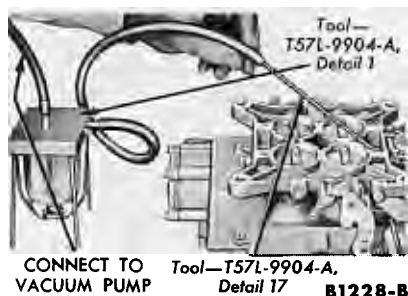

FIG. 3—Ford Carburetor Power Valve Test
2. Remove the glass bowl from the fixture (Fig. 3). Fill the bowl half-full of water. Install the bowl on the fixture.
the other end of the tube to the fitting on the side of the fixture. Slip the rubber gasket (furnished with the tool) over the small OD end of the wand. Hold this end against the power valve vacuum pick-up port (Fig. 3).